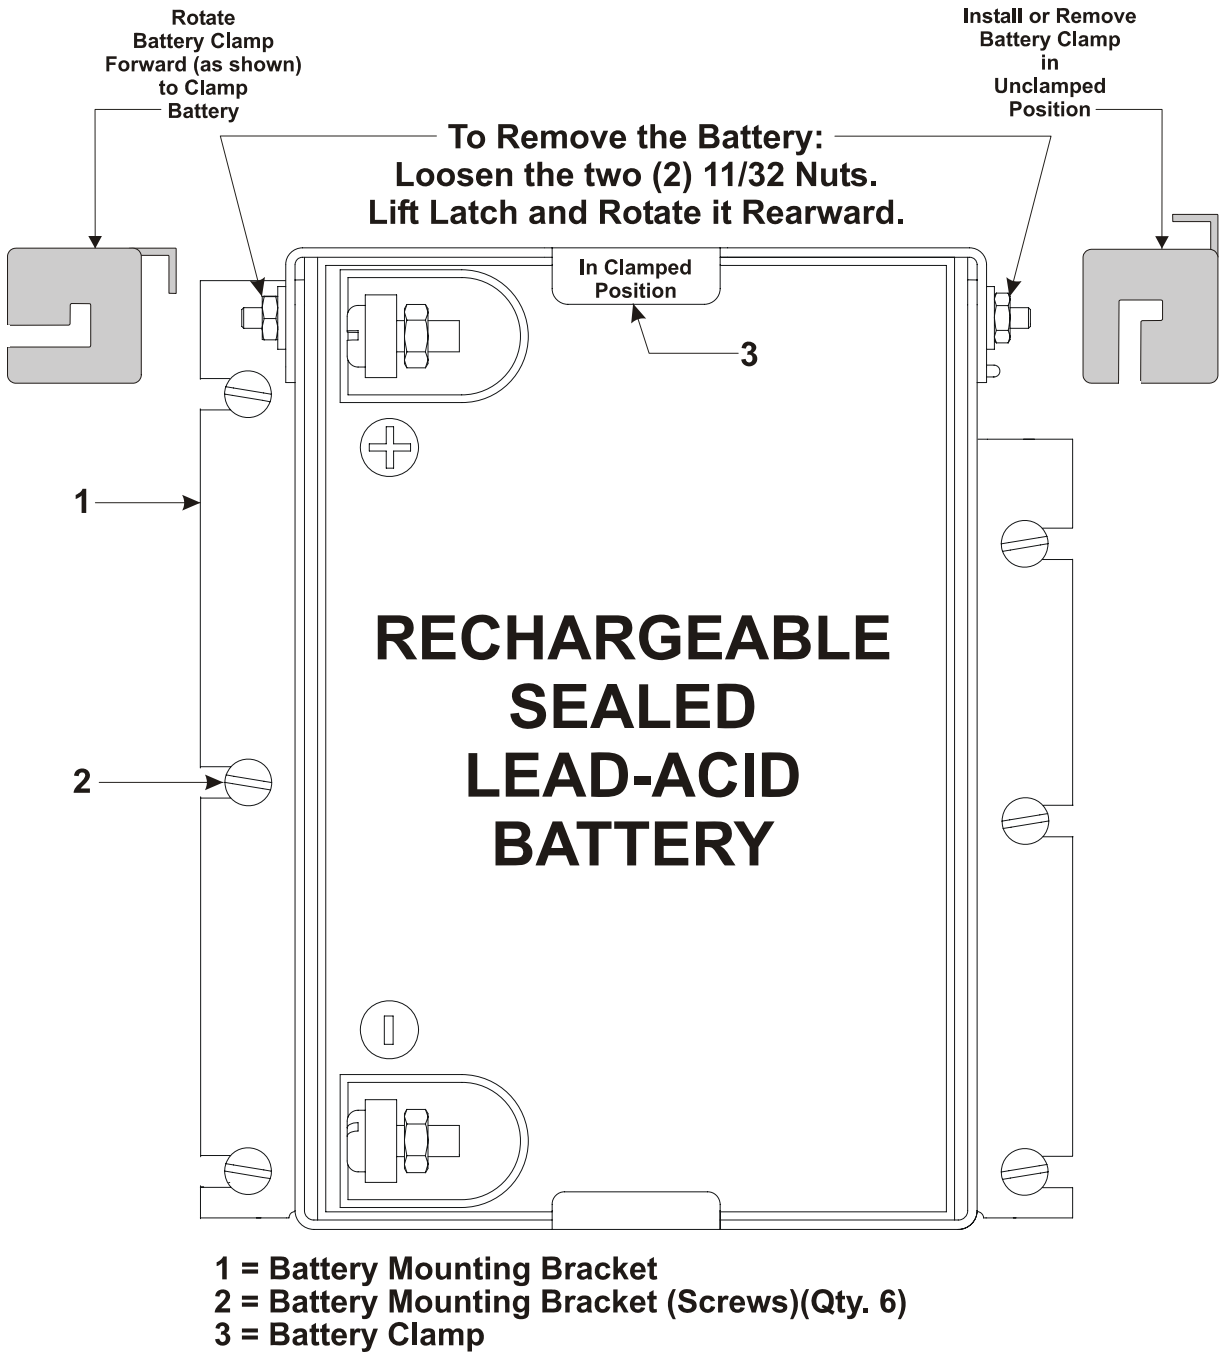

Figure 3-1 - Sealed Lead-acid Battery Mounting Diagram
5. To replace the Rechargeable Lead-acid Battery, align the unit such that the negative battery terminal is oriented to the top and right as illustrated in Figure 3-1 and place the battery into the Battery Mounting Bracket (Battery Clamp must be in the released position. **Note: Make sure the Lead-acid Battery is fully charged before installing it.**